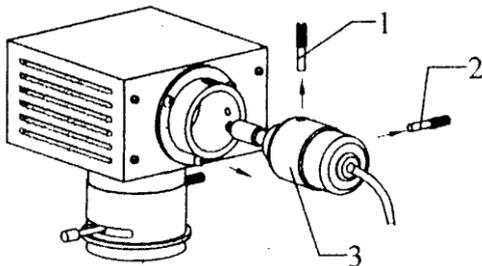

Fig. 5
7. If the lamp is in need of adjustment, using Figure 5, the vertical thumbscrew (1) and the
1. When replacement of the lamp is necessary, be sure to turn off power and remove plug. Loosen thumbscrews (1 and 2 in Fig. 5) and remove lamp holder (3) from the lamp box (1). Pull out old bulb. Handle new bulb with gloves or tissue to keep from touching bulb. Oil from the skin left on the bulb will shorten bulb life. Install new bulb into socket. Check illumination and check for proper alignment of bulb (See Operation #7).